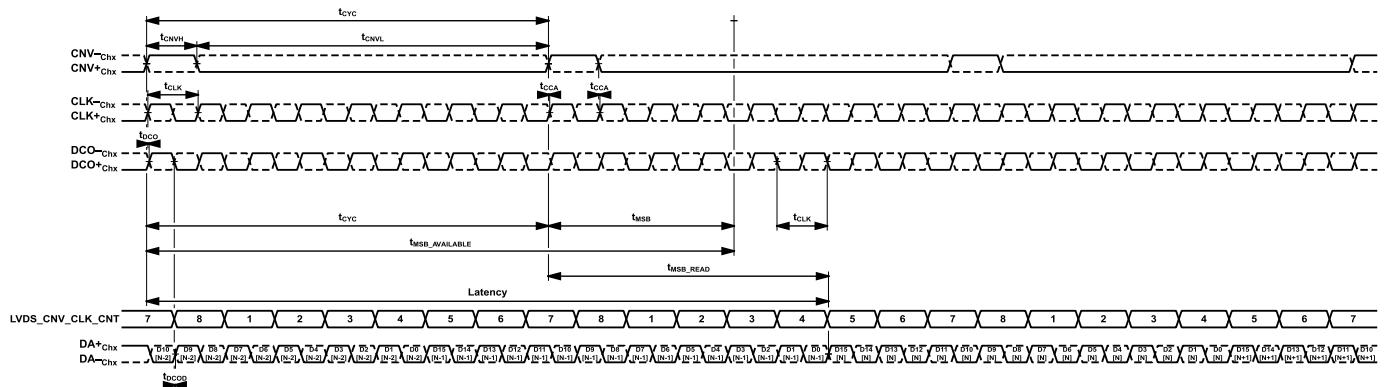
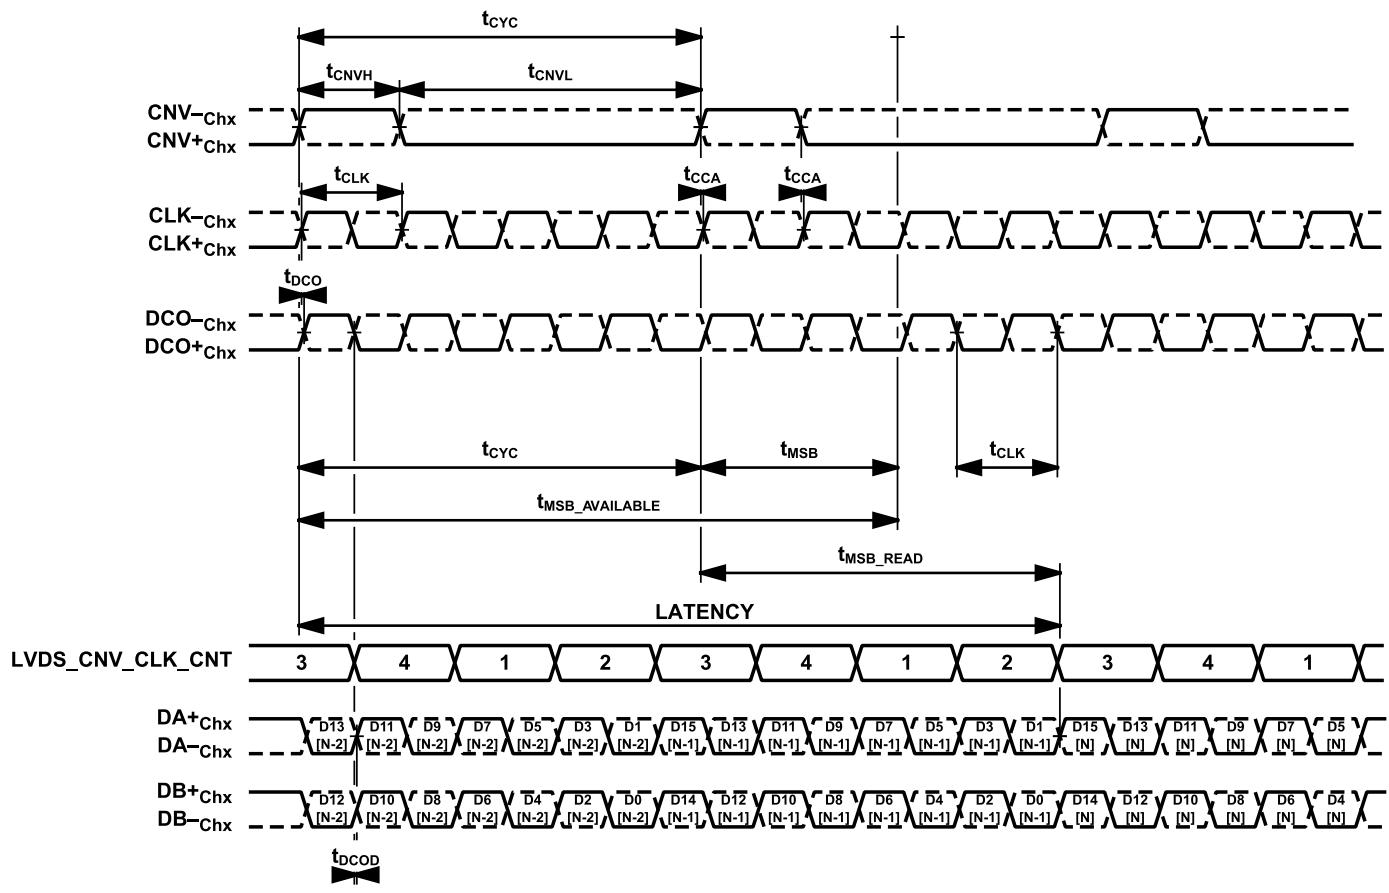

Figure 115. Single Lane LVDS, Echo Clock Mode, LVDS\_CNV\_CLK\_CNT Position Example
Figure 116. Dual Lane LVDS, Echo Clock Mode, LVDS\_CNV\_CLK\_CNT Position Example
**Figure 115** and **Figure 116** serve as aids to describe the placement of the ADC result data onto the LVDS interface controlled by the LVDS\_CNV\_CLK\_CNT, showing that a new result is internally completed after  $t_{CYC} + t_{MSB}$ , signified here also by a notional  $t_{MSB\_AVAILABLE}$  (introduced only for the purposes of the explanation in **Figure 115** and **Figure 116**). **Figure 115** shows an example at 20MSPS conversion rate, with gain error correction, 160MHz LVDS clock, single lane, and shows that the LVDS\_CNV\_CLK\_CNT setting of 5 is the earliest the conversion result can be loaded to the LVDS interface under these conditions. One additional full  $t_{CLK}$  cycle is required (a complete cycle being  $CLK+_{CHx}$  falling edge
to next  $\text{CLK}+\text{Chx}$  falling edge) to make the MSB available at the interface output. This cycle is highlighted within Figure 115 also with a notional  $t_{\text{MSB\_READ}}$  indicator for illustrative purposes only. Figure